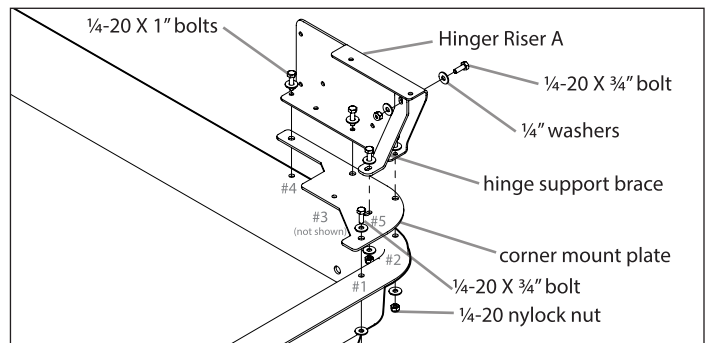

FIGURE 1
1. Attach the Hinge Riser A (68052) and corner mount plate (11599) to the tub using (4) 1/4-20 X 1" bolts, (8) 1/4" washers and (4) 1/4-20 nylock nuts. Align the hole pattern on the plate corner mount (11599) with the left hinge assembly (69307L) to the matching hole pattern on the sled. Insert bolts starting with hole #1 (using a 1/4-20 x 1" bolt) then move on to #2, #3 and #4, tightening bolt/nut combinations as you go. **SEE FIGURE 1**
2. Repeat step 1 on the opposite side using Hinge Riser B assembly (68053). **SEE FIGURE 1**
3. Attach the (2) hinge support braces (11203) to both the Hinge Riser A (68052) and Hinge Riser B (68053) using (4) 1/4-20 x 3/4" bolts, (4) 1/4" washers, and (2) 1/4-20 nylock nuts. First attach the hinge support brace (11203) to hole #5 on the corner mount plate (11599). **SEE FIGURE 1**